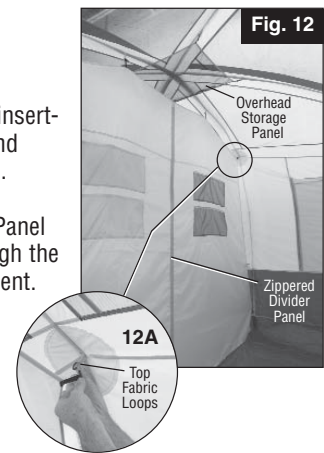

Fig. 12
1. Divider Panel can be installed through center of the tent by inserting the toggles through top and bottom fabric loops as shown. (Fig. 12 & 12A)